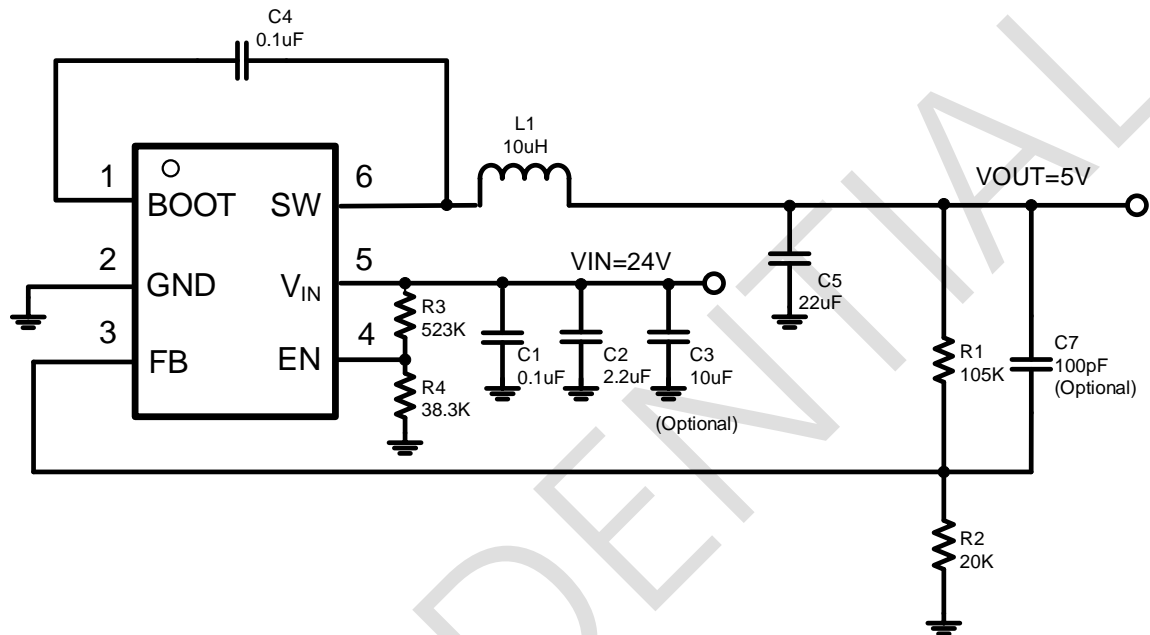

Figure 9. 24V INPUT, 5V/0.6A OUTPUT
The GBI1400 output voltage can be easily set up using a resistor divider network R1 and R2 as shown in the typical application circuit Figure 9. Use Equation (6) to calculate the resistor divider values.